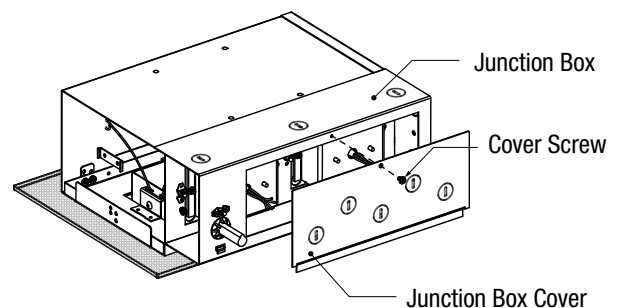

FIGURE 5
Step 2. Remove junction box cover Fig 5.
Step 5. Place all connections and excess wiring into the junction box and replace cover Fig 5.